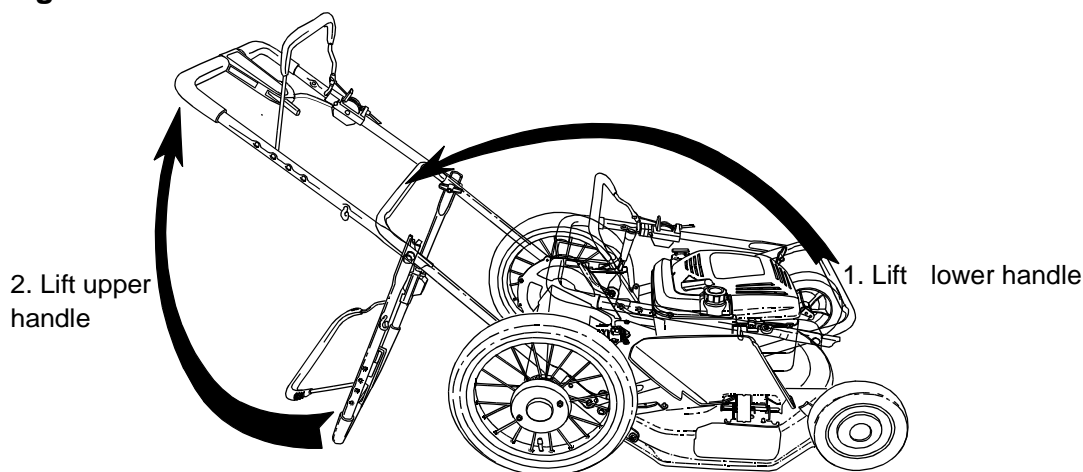

Figure 5
- Raise the lower handle in the direction shown in Figure 5 (step 1) till it snaps into place.
- Raise the upper handle in the direction shown in Figure 5 (step 2). Tighten the hand knobs which are already on the handle. See Figure 6A. For convenience in assembly, do not overtighten these knobs as you will be replacing these later in the assembly.